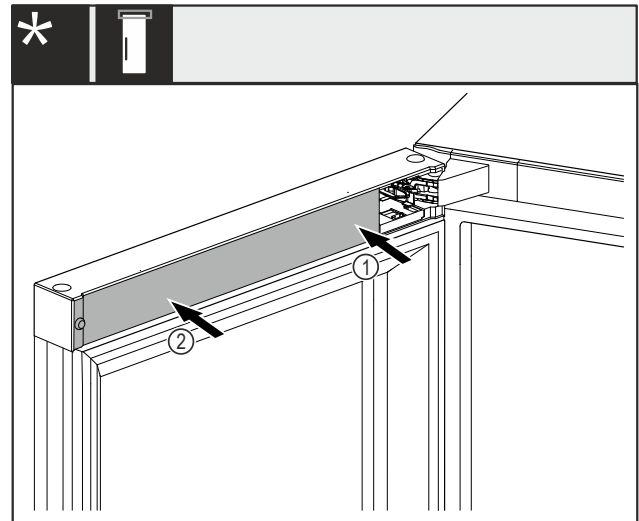

Fig. 39 \*
- ▶ Position the cover Fig. 39 (1) on the swap bearing block side first and snap it in.\*
- ▶ Position the cover Fig. 39 (2) on the outside and snap it in.\*